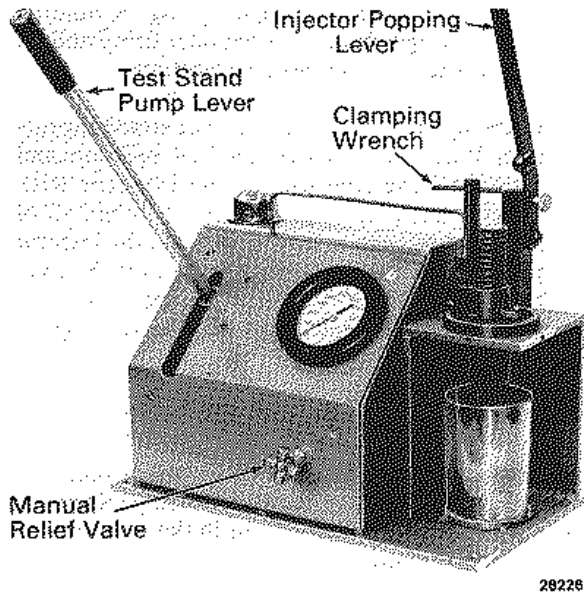

Fig. 11-7 - Injector Tester
These injectors cover the testing of all needle valve injectors using the tester shown in Fig. 11-7. The procedures are not applicable to other types of testing equipment, since injector leakoff rates vary greatly in proportion to the volume of fuel contained in the high pressure portion of the tester.
Install the test block in place or an injector in the tester and pump up pressure to 13 790 kPa (2000 psi), as indicated by the gauge. After five minutes, the pressure should not have dropped below 13 618 kPa (1975 psi). Release the block and recheck at 3 448 kPa (500 psi) and 6 895 kPa (1000 psi). These pressures should hold one minute with no apparent gauge drop. Make these tests with the pressure shutoff valve, Fig. 11-7, open all the way. If the tests are satisfactory, all injector tests may be made without using the shutoff valve. If the preceding tests indicate leakage, repeat the tests, closing the shutoff valve before timing the leakoff rates. If the tests are satisfactory with the shutoff valve closed, it will be necessary to use the shutoff valve when making the injector holding pressure test.
4. "Pop" the injector with the popping lever, Fig. 11-7, using approximately 40 smooth even strokes per minute. A finely atomized spray should show at each of the holes in the tip. Rapid closing of the needle valve should produce a sharp "chatter".
3. Injectors should be qualified on the pressure test by timing the interval for a drop in pressure from 13 790 kPa (2000 psi) to 10 342 kPa (1500 psi). If this interval is less than 20 seconds (used) or 30 seconds (new or reconditioned), repeat the test, but close the pressure shutoff valve immediately after establishing the 13 790 kPa (2000 psi) pressure. This is to ensure that the leakdown time is not being affected by the possible leakage in the tester itself. If the timed interval for the pressure drop from 13 790 kPa (2000 psi) to 10 342 kPa (1500 psi) is still less than 20 seconds (used) or 30 seconds (new or reconditioned), the injector should be rejected. To relieve the pressure before removing the injector from the tester, wrap a cloth around the injector fuel line connections and back off on the clamping wrench, Fig. 11-7.
2. Place injector in tester but do not attach the fuel line. Place rack in the full fuel position and pump all the fuel out of the injector with injector popping lever, Fig. 11-7. When all of the fuel has been removed, depress the injector plunger to full extent of its travel. Slowly release popping lever and simultaneously move injector rack repeatedly in and out through its full travel.